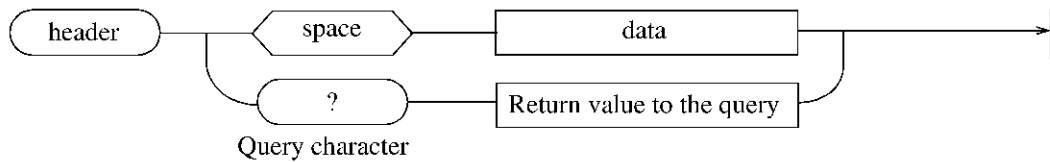

Figure 5-1 COMMAND SYNTAX 1
- (1) Format using a header, data and a space (which is the delimiter between the header and the data) (Figure 5-1).